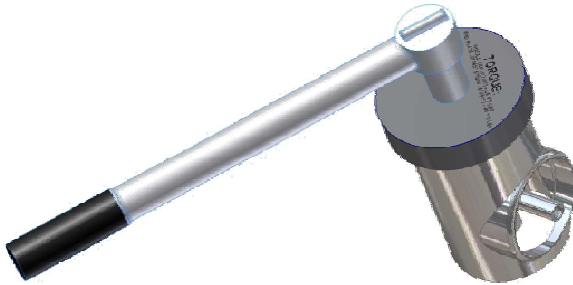
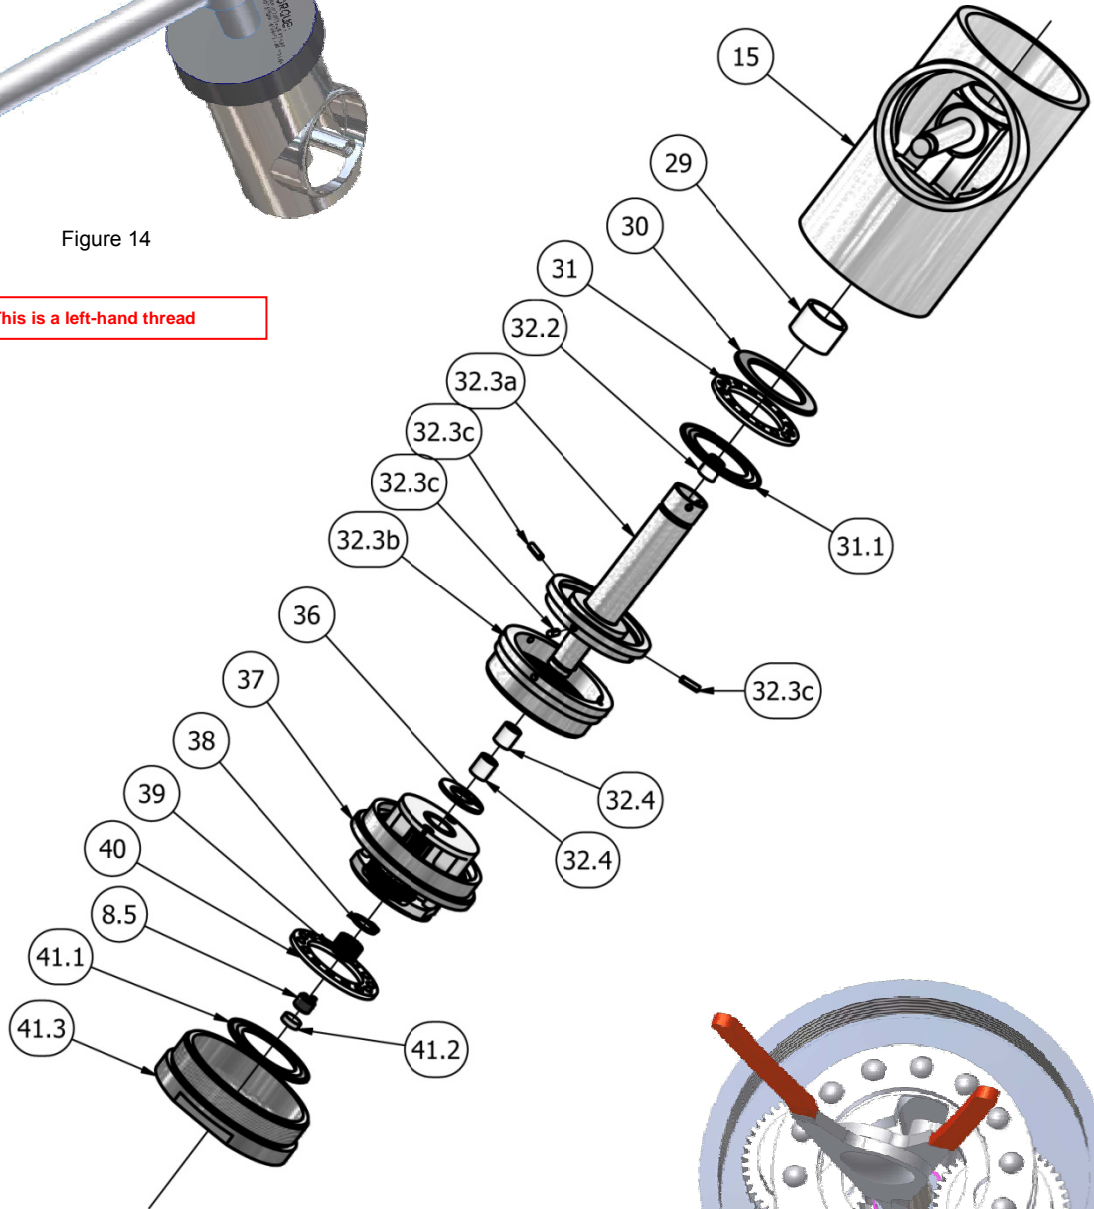

Figure 14
Figure 15
1. Reverse process as stated above with the additional observance of using a torque wrench as shown Figure 14 to attach position 41.3 to position 15.
- a. If foreign matter has entered into this area; (position 37); to perform an inspection see Figure 14 and Figure 15 for disassembly instructions.
- a. After items 1-6 above have been checked; it may be necessary to replace parts due to normal wear associated with your type of operation. One of the best ways to determine the need to replace parts is a visual inspection of the primary wear parts as listed in the reference list of parts on page 29. Additionally, the working mechanism of the machine can be checked by rotating the impeller; (position 8.1). By rotating this position, the turbine shaft and various gearing within the tank cleaning machine is engaged. Rotation should be smooth and consistent. If that is not the case then parts replacement is most probably required.